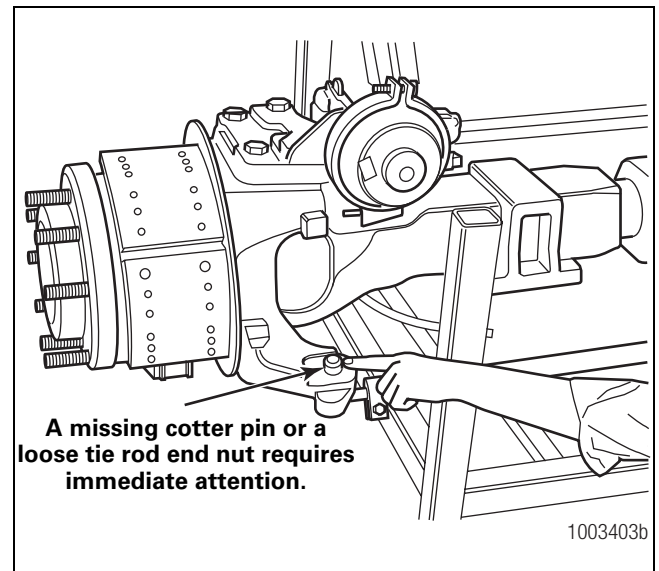

**Figure 5.9**
5. Check for cracking or tears in the boot. Also check the boot seals for damage. Replace the entire tie rod if the boot is damaged or missing. Figure 5.9.